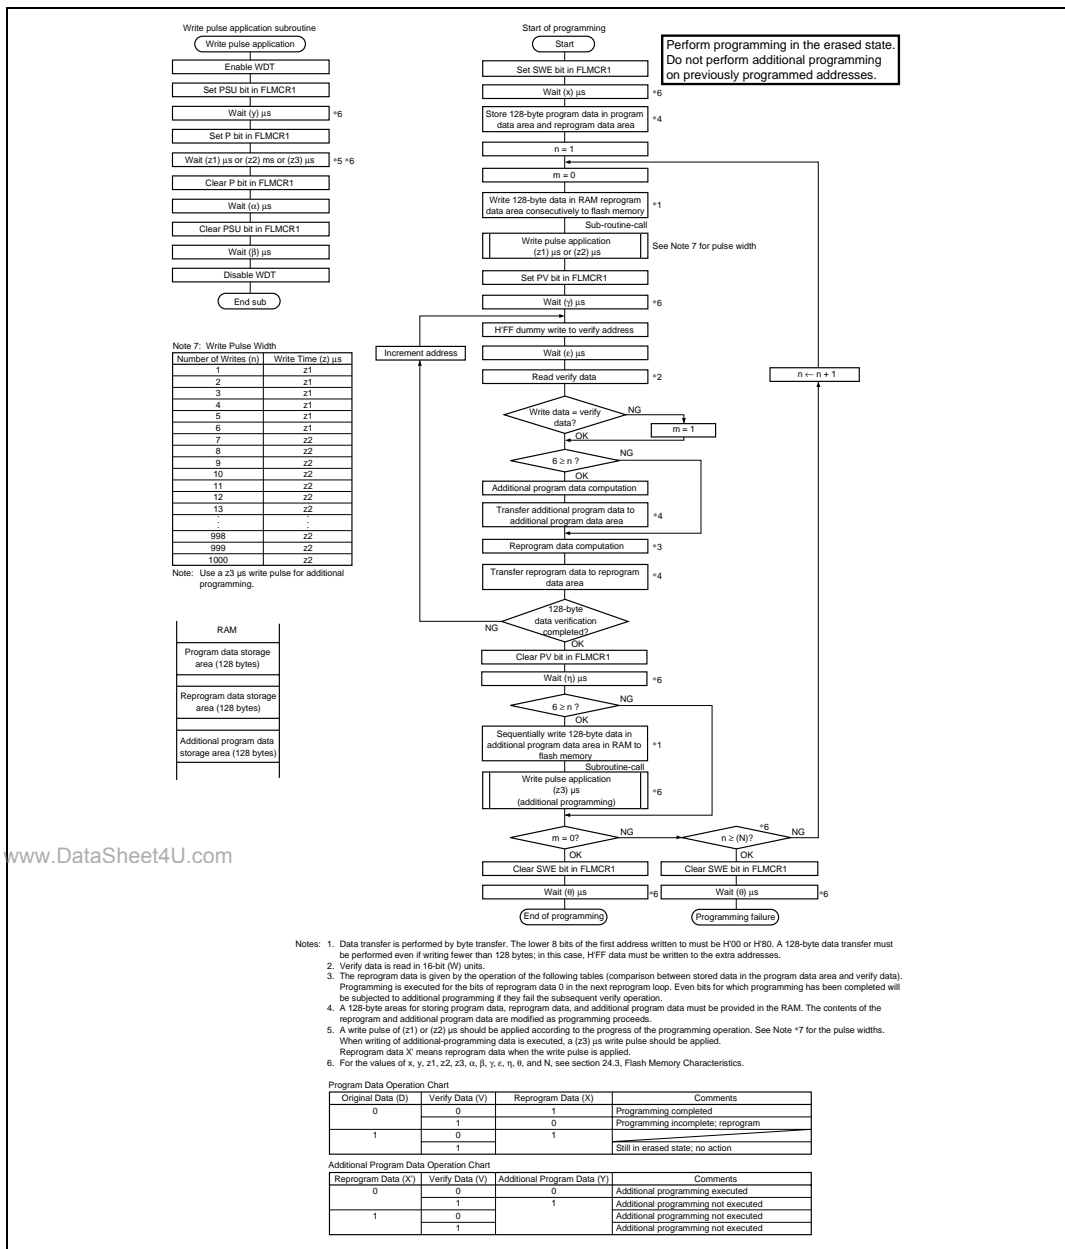

Figure 19.7 Program/Program-Verify Flowchart
When programming data or programs to the flash memory, the program/program-verify flowchart shown in figure 19.7 should be followed. Performing programming operations according to this flowchart will enable data or programs to be programmed to the flash memory without subjecting the chip to voltage stress or sacrificing program data reliability.
3. Prepare the following data storage areas in RAM: a 128-byte programming data area, a 128-byte reprogramming data area, and a 128-byte additional-programming data area. Perform reprogramming data computation and additional programming data computation according to figure 19.7.
5. The time during which the P bit is set to 1 is the programming time. Figure 19.7 shows the allowable programming times.
8. The maximum number of repetitions of the program/program-verify sequence to the same bit (N) must not be exceeded.